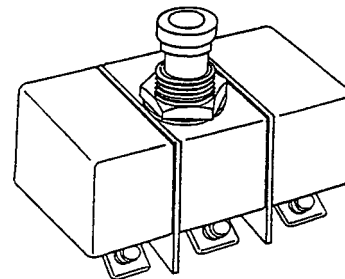

Figure 5. Typical 3 Phase Circuit Breaker
22. **Multipole.** A multi-phase circuit breaker has two or more poles controlled by a single-actuating member. It may be used on a multi-phase circuit such that an overload on an individual phase will cause the circuit breaker to open all phases of the circuit. Usually, operating limits and performances are different than single phase circuit breakers. Figure 5 shows a typical multi-phase circuit breaker.